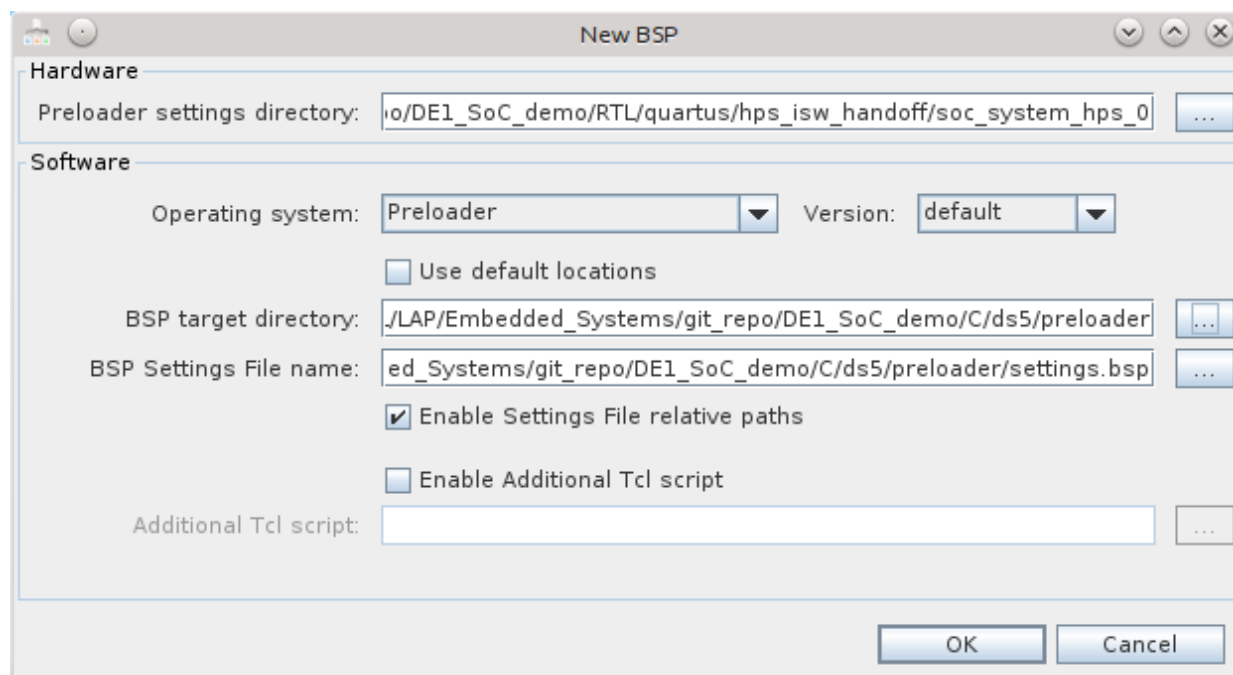

Figure 8-23. New BSP Dialog
- b. Disable the “Use default locations” checkbox and under the “BSP target directory”, select the “DE1_SoC_demo/C/ds5/preloader” directory. You should have something similar to Figure 8-23.